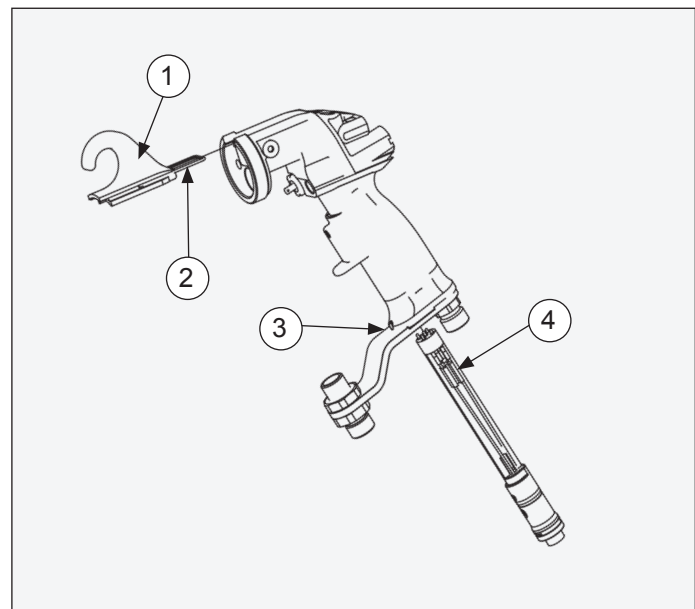

Figure 33: Hook and Plug Assembly Removal
11. Place the six (6) spring washers onto shaft with the first, third, and fifth ones concave (cupped) side forward. The second, fourth, and sixth ones should be cupped side rearward (see Figure 33).
► All six (6) spring washers **MUST** be replaced alternately as shown in Figure 33, or the applicator will malfunction.